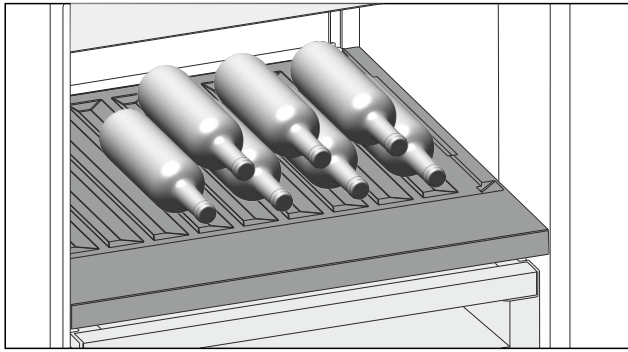

Fig. 85
- Place bottles in the back row with their bases against the back wall. (see Fig. 85)